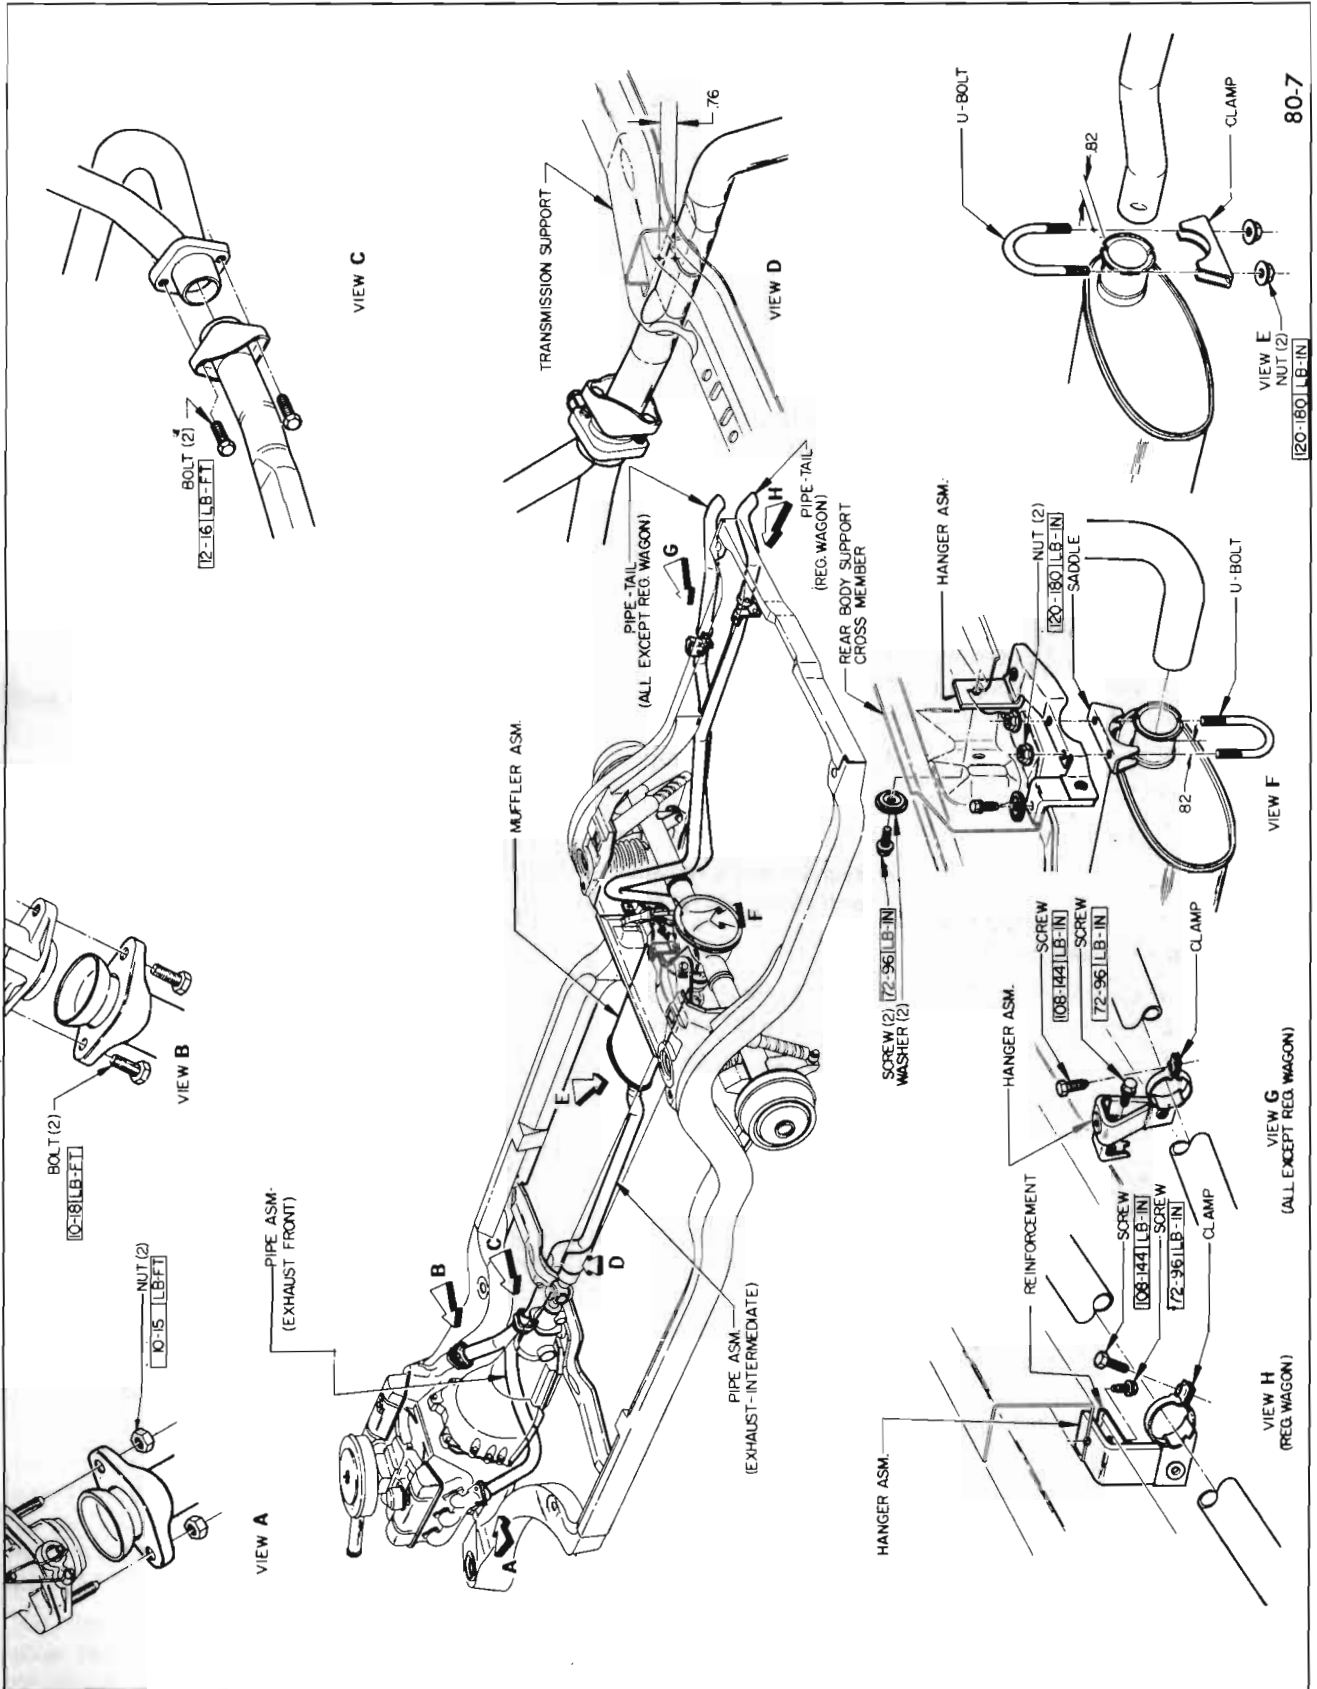

Figure 80-7 Single Exhaust System - V-6
9. Align muffler and exhaust pipe. See drawing that applies - Figures 80-7 through 15.
6. Align exhaust pipe. See drawing that applies - Figures 80-7 through 15.
7. Align tail pipe. See Figure 80-7 or 8.